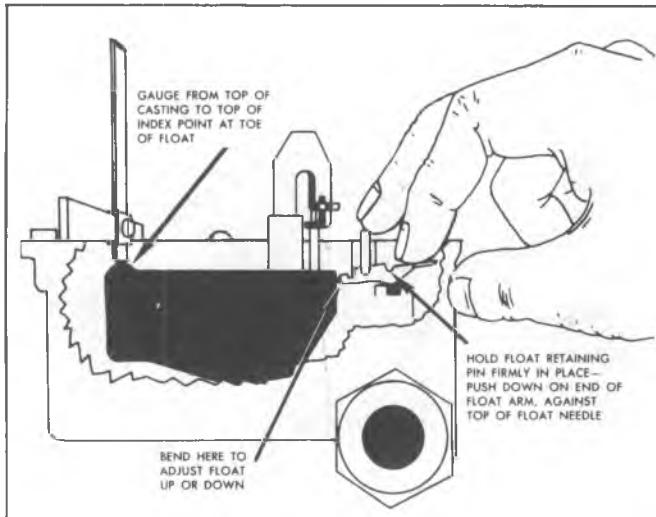

Fig. 6C-14--Float Level Adjustment
**Metering Rod Adjustment (Fig. 6C-15)**